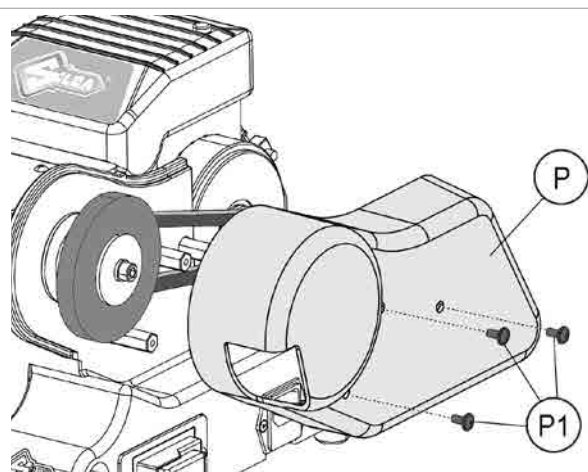

Fig.40
- 6) Remove the screws (P1), then the protective cover (P) (Fig.40).
- 3) Remove the cover (P) by loosening the screws (P1) (Fig.40).
- 8) Place the motor cover (P).